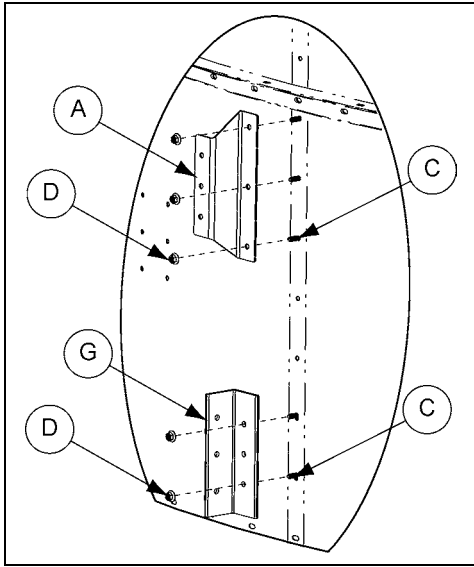

Figure 5B
1. Install bracket (A) and clip (G) to the burner panel seam right below the bottom burner ring using bolt (C) and nut (D). (See Figure 5B.)